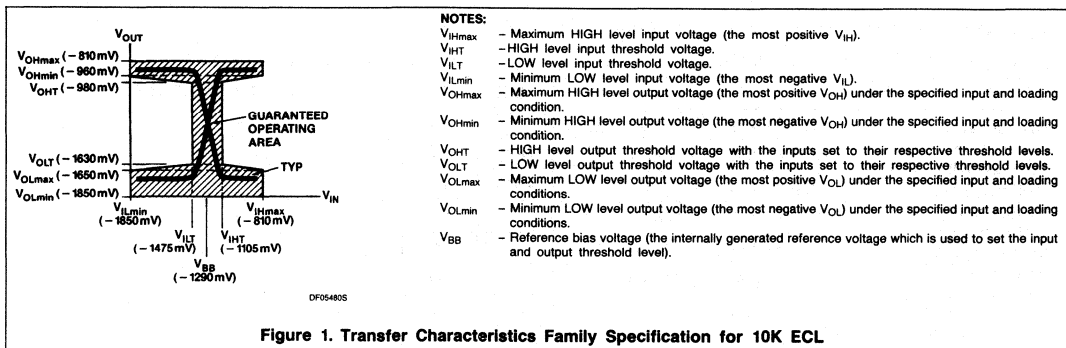

Figure 1. Transfer Characteristics Family Specification for 10K ECL
3. The specified limits shown in the DC Characteristics can be met only after thermal equilibrium has been established. Thermal equilibrium is established by applying power for at least 2 minutes while maintaining transverse air flow of 2.5 meters/s (500 linear feet/min) over the device either mounted in the test socket or on the printed circuit board. Test voltage values are given in the DC Operating Conditions and defined in Figure 1.